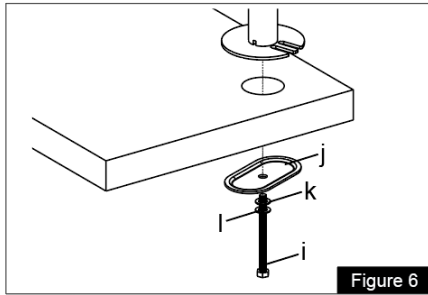

Figure 6
3. Position the Pole (**a**) on the mounting surface and secure using the Support Plate (**j**), M10 Washer (**k**), Spring Washer (**l**) and M10 Bolt (**i**). Fasten the M10 Bolt using provided Wrench (**p**), see *Figure 6*.